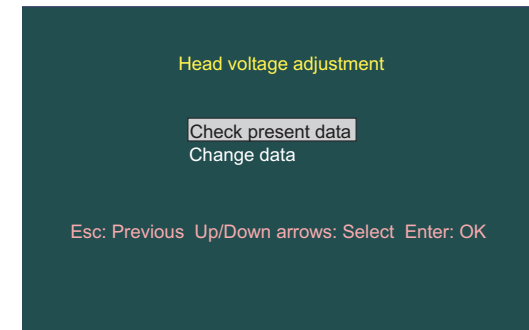

Figure 5-22. Head Voltage ID Menu Screen
7. Press Esc once. The Head Voltage ID Menu screen reappears (Figure 5-22).